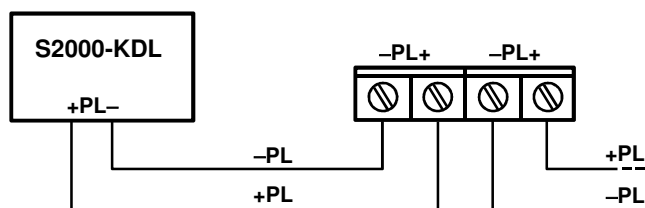

Figure 3. Connection Diagram
6.10 Connect the detector to the polling loop in line with Figure 3 following the instructions of the S2000-KDL user's manual. Fasten the wires by bolts and put the cover back onto the base.
Connect the polling loop to the detector as shown in Figure 3. Switch power on and wait for about two minutes. Start moving through the detection area with the velocity 0.5 to 1 m/c. The detector shall trigger an alarm (by LED's flashing) after 3–4 steps within the detection zone. Wait until the LED stops flashing and pass through the detection zone from the other side. The detector shall trigger an alarm.